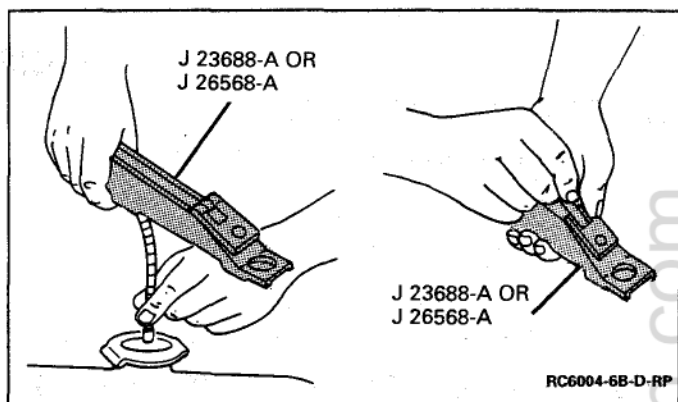

Figure 35 – Collecting the Coolant
- Wipe dry both prism and bottom of sample cover with tissue or clean soft cloth. Refer to Figure 35.